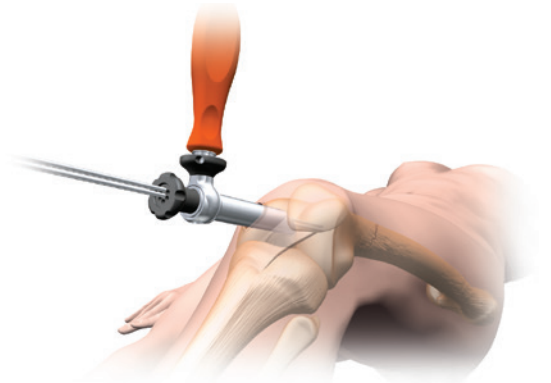

Figure 8
**Note:** If suboptimal Guide Pin insertion occurs, rotate the Honeycomb within the Entry Portal Tube to the desired location and insert another 3.2mm Brad Point Guide Pin (Figure 8).
2. Attach the 12.5mm Entry Reamer (71631116) to a power drill. Advance the reamer over the Guide Pin and through the Entry Tube to a depth of 6–8cm (Figure 8).